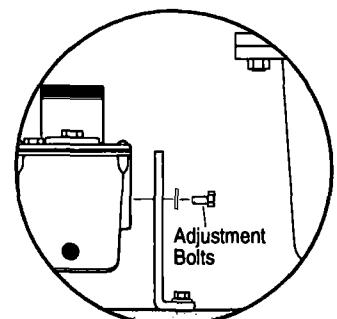

Figure 2B
2. Mount the LM300 to the universal bracket using two 3/8-16 UNC x 1 inch (25 mm) bolts supplied (Figure 2B). **DO NOT** tighten the adjustment screws too tightly. You will have to adjust the LM300 later in the installation process.